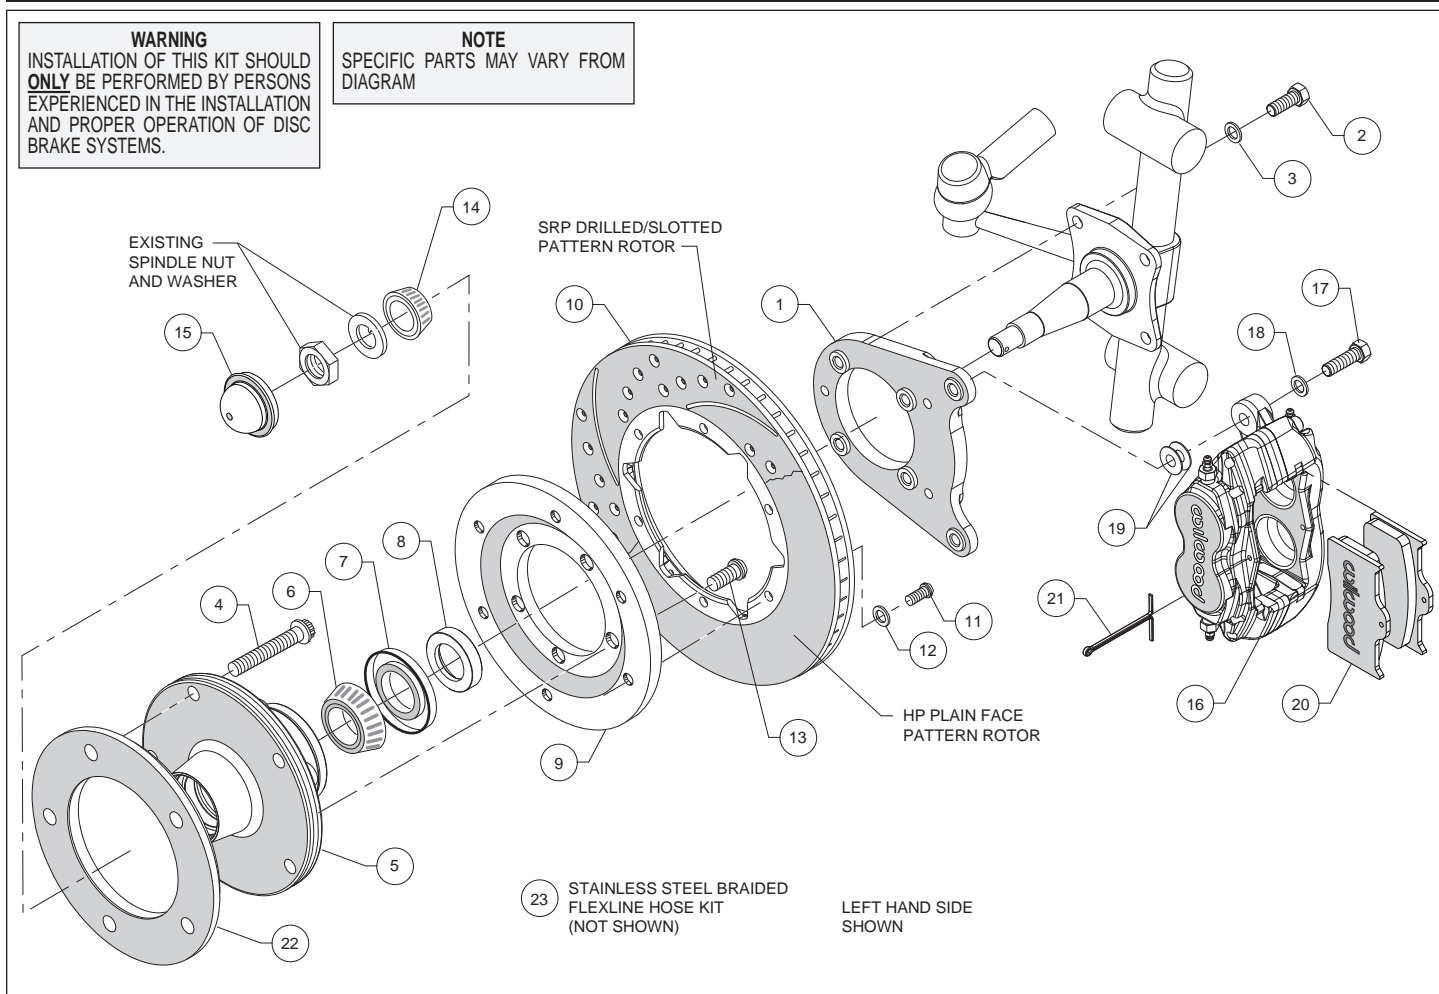
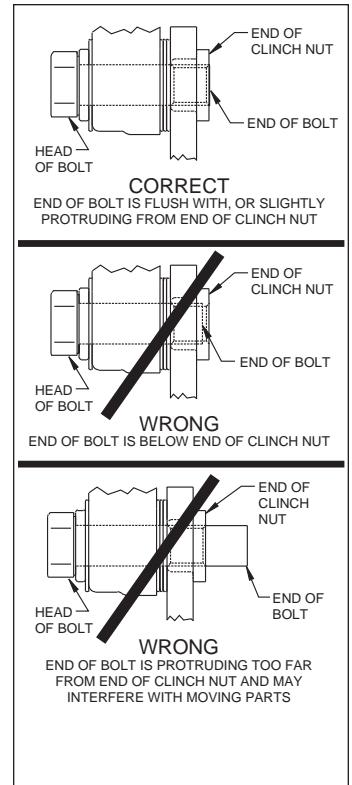

Figure 1. Typical Installation Configuration
Figure 3. Clinch Nut Engagement Diagram
Assembly Instructions (numbers in parenthesis refer to the parts list on the preceding page, and Figure 1): **CAUTION:** All mounting bolts must fully engage insert nuts. Be sure to check that all bolts are either flush or protruding through flanged side of clinch nut after shimming, Figure 3.
- Orient the caliper mounting bracket (1) as shown in Figure 1 and Photo 1, and attach using bolts (2) and washers (3). Temporarily tighten the mounting bolts. Ensure that the flanged heads of the clinch nuts in the bracket are facing outboard, Photo 1. **NOTE:** The bracket must fit squarely against the mounting points on the spindle. Inspect for interference from casting irregularities, machining ridges, burrs, etc. Remove bolts one at a time, apply red *Loctite*® 271 to threads, and torque to 40 ft-lb.
- Install the grease seal (7) by pressing into the backside of the hub (5), flush with the end of the hub, Photo 3.
- Slide the bearing spindle spacer (8) onto the spindle. Ensure the chamfered I.D. faces inward, Photo 4.
- Orient the rotor (10) and the rotor adapter (9) as shown in Figure 1 and Photo 5. Attach the rotor to the adapter using bolts (11), and washers (12). Using an alternating sequence, apply red *Loctite*® 271 to the threads, and torque to 25 ft-lb.
- Mount the adapter/rotor assembly (9/10) to the hub (5) using bolts (13), as shown in Figure 1 and Photo 6. Using an alternating sequence, apply red *Loctite*® 271 to the threads, and torque to 55 ft-lb.
- Pack the small outer bearing cone (14) with high temperature disc brake bearing grease and install into hub (5). Slide the hub/rotor assembly onto the spindle, Photo 7. Secure using OEM spindle washer and OEM spindle nut. Adjust bearings per OEM specifications. Bearing adjustment: Tighten the nut while turning the hub. When there is a slight bind on the bearings, they are seated correctly. Back the nut off about 1/6 to 1/4 of a turn, or sufficiently to allow .001" to .007" end play. **WARNING:** Failure to back off adjusting nut could cause bearing to run hot and be
- Press the dust cap (15) into hub (5), Photo 8.
• **NOTE:** Please reference the caution statement at the beginning of the assembly instructions. Mount the caliper (16) onto the caliper mounting bracket (1) using bolts (17) and washers (18), as shown in Figure 1. Initially place two .035" thick shims (19) on each bolt between the caliper and the bracket, Photo 9. Temporarily tighten the mounting bolts and view the rotor (10) through the top opening of the caliper. The rotor should be centered in the caliper, Photo 10. If not, adjust by adding or subtracting shims between the bracket and the caliper. Always use the same amount of shims on each of the two mounting bolts. **NOTE:** The end of each bolt must be flush with or slightly protruding from the head of the clinch nut, as shown in Figure 3. If necessary place spare shims between washer (18) and caliper mounting ear to achieve the proper clinch nut engagement. Once the caliper alignment and clinch nut engagement are correct, remove the bolts one at a time, apply red *Loctite*® 271 to bolt threads, and torque to 40 ft-lb.
- Install the disc brake pads (20) into the caliper, with the friction material facing the rotor (10), Photo 11 and secure in place using cotter pin (21), Photo 12.
- Install wheel spacer (22) over the wheel studs. **NOTE:** Use of wheel spacer is mandatory.
• **NOTE:** OEM rubber brake hoses generally cannot be adapted to Wilwood calipers. The caliper inlet fitting is a 1/8-27 NPT. Install Wilwood's stainless steel braided flexline hose kit (23), P/N 220-15157 included with this kit as shown in Photo 13. **Carefully route hoses to prevent contact with moving suspension, brake or wheel components.** **NOTE:** Wilwood hose kits are designed for use in many different vehicle applications and it is the installer's responsibility to properly route and ensure adequate clearance and retention for brake hose components. Hose kit include hoses, fitting, etc., all in one package for this application.